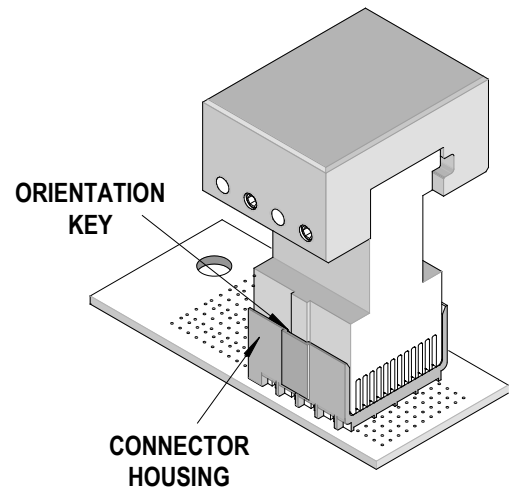

Figure 2-7
3. Locate the tooling assembly in the connector assembly, carefully checking alignment. The orientation keys on the tool must engage with the groove on the connector housing. See Figure 2-7.